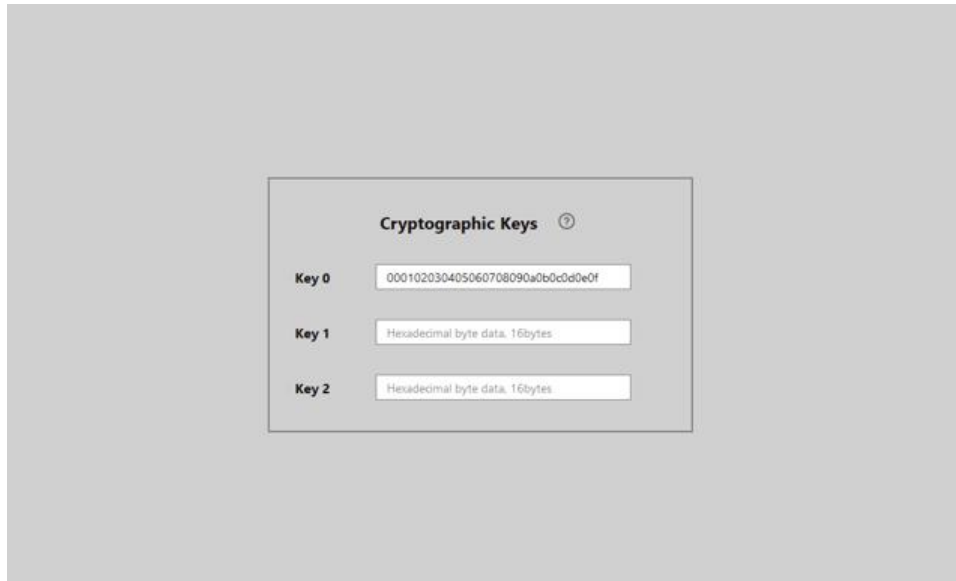

Figure 15 Selection of key and key for AES-EAX
The AES-EAX needs a 16-byte key for the encryption and authentication for each advertising set. There are three keys (key0, key1 and key2) to be chosen from, as shown in Figure 15.
The configuration of the three key is in the “Global Settings as shown in Figure 15. The input box of the corresponding key needs to be filled with hexadecimal data.